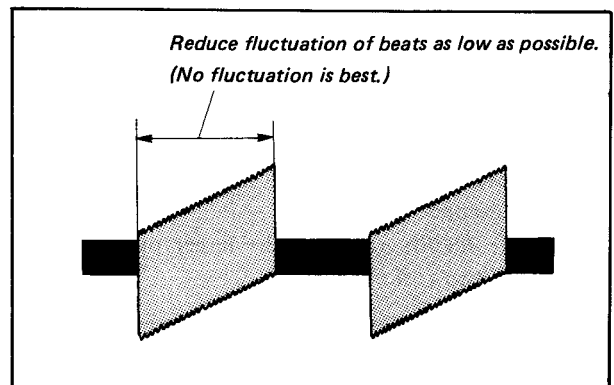

Fig. 2-39
- 3) Adjust CT651 to minimize fluctuation of beats. (Fig. 2-39)